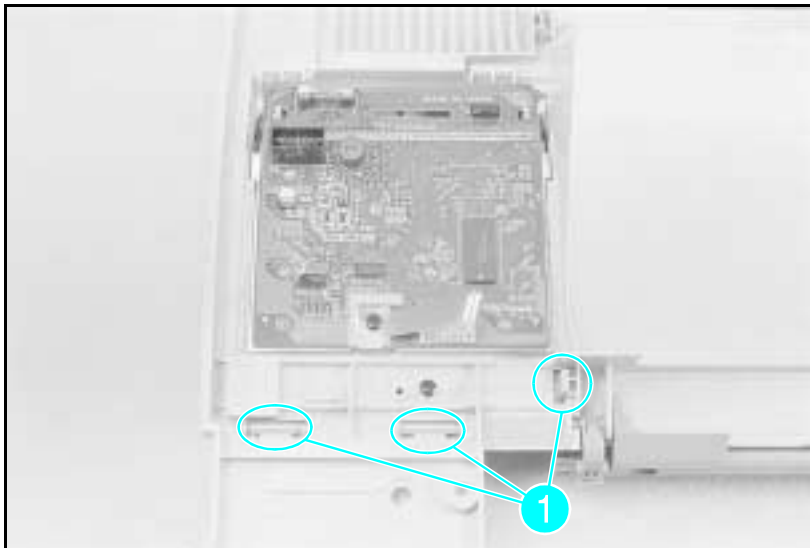

Figure 6-21 **Control Panel Latches**
- 3** Release the (3) latches that contain the Control Panel (see Figure 6-21, callout 1).